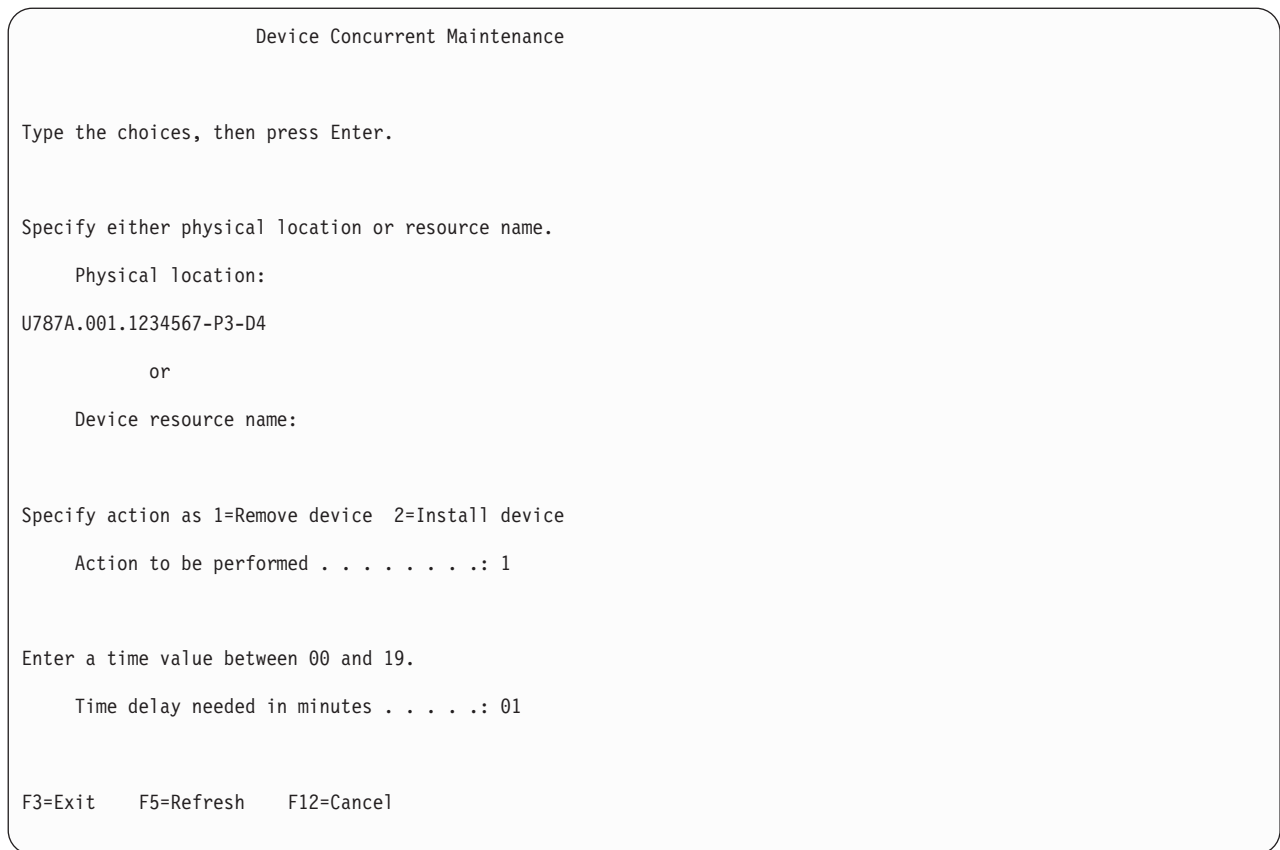

Figure 84. Example Device Concurrent Maintenance display
12. If the physical location does not appear in the Device Concurrent Maintenance display, type the physical location where you will be replacing the disk drive as shown in the preceding example, Figure 84.